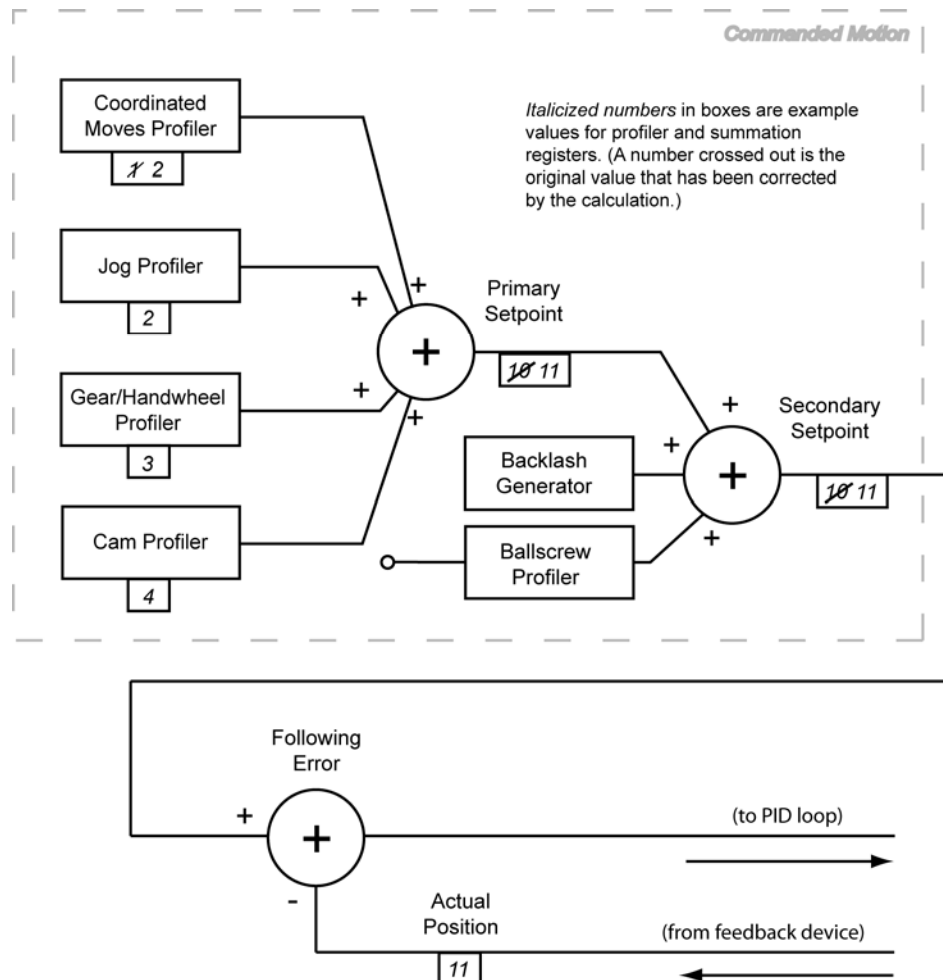

Figure 2 Calculations for REN Command
In the example in Figure 2, the actual position is 11. That number is copied into the register for the Secondary Setpoint, and the Primary Setpoint is then calculated (11).